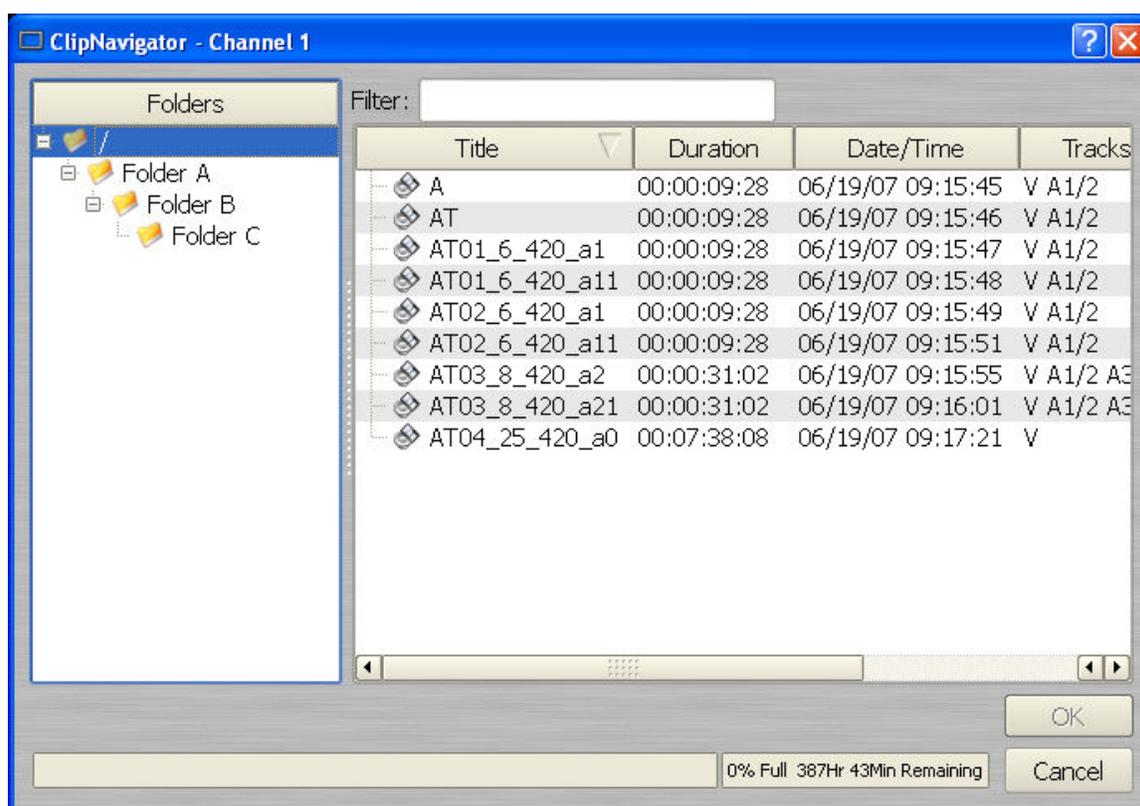

Figure 9 - Channel 1 Clip Navigator in “Open” Mode
- A. Select **FILE > OPEN** from the Transport Window of Channel 1, 2 or 3. The Clip Navigator will appear per Figure 9.